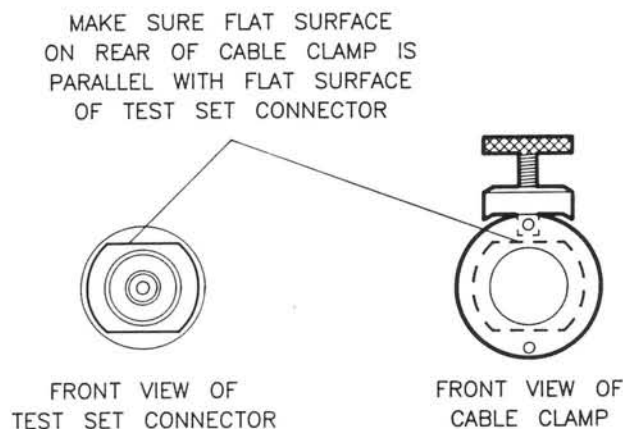

Figure 1. Visually Aligning Clamp and Nut Flats
3. See Figure 1. Turn the clamp so that the thumbscrew is pointing up. From there, turn the clamp to visually align the clamp flats with the flats on the test port connector nut. This will minimize rotating the connector in the next step.